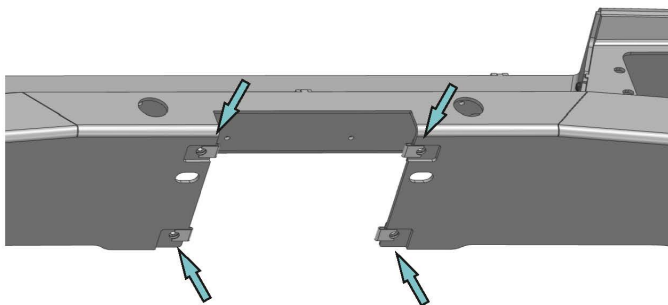

Fig. 35
32. Install U-nuts M6 (item J) on bumper body (item 1) as shown in fig.35.